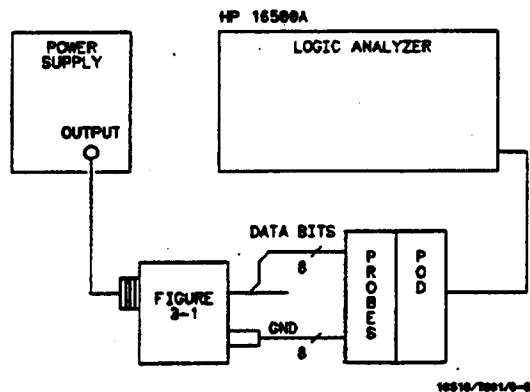

Figure 3-39. Equipment Setup For Threshold Accuracy
1. Connect the HP 16510B and test equipment as shown in figure 3-39.